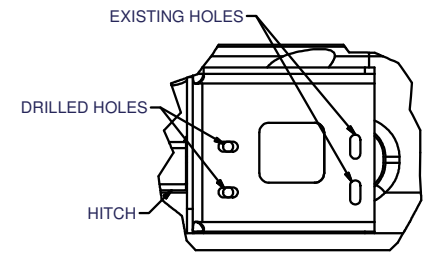

FIGURE 2
4. Using the hitch as a template mark the required drill holes. Drill holes with 5/8" drill bit. See figure 2.
7. Reinstall bumper using (4) bolts removed in step 1. Do not install shim plates and return to customer.
8. Place 1/2"-13 x 1 3/4" bolts along with a 1/2" washers in (4) drilled holes. Secure with SP16 spacers and 1/2"-13 handle nut as shown. **CAUTION:** Hold drivers side handle nuts in place to prevent them from rotating into air conditioning condenser.